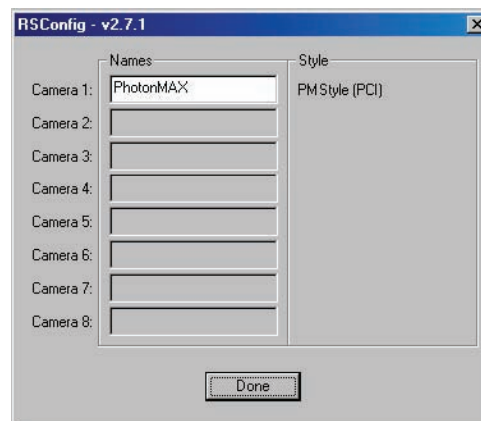

Figure 59. RSConfig dialog box
4. When the RSConfig dialog box (Figure 59) appears, you can change the camera name to one that is more specific or you can keep the default name "Camera1". When you have finished, click on the **Done** button.